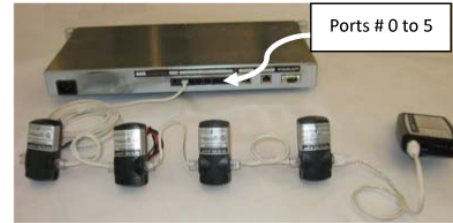

Figure 4: A GreenBus™ channel with four IOMs
2. Plug the first cable run (channel) to one of the ECU ports (numbered 0 – 5) as shown in Figure 4.
4. As shown in Figure 4, go to the opposite end of the cable run and connect the GBDT to start testing.